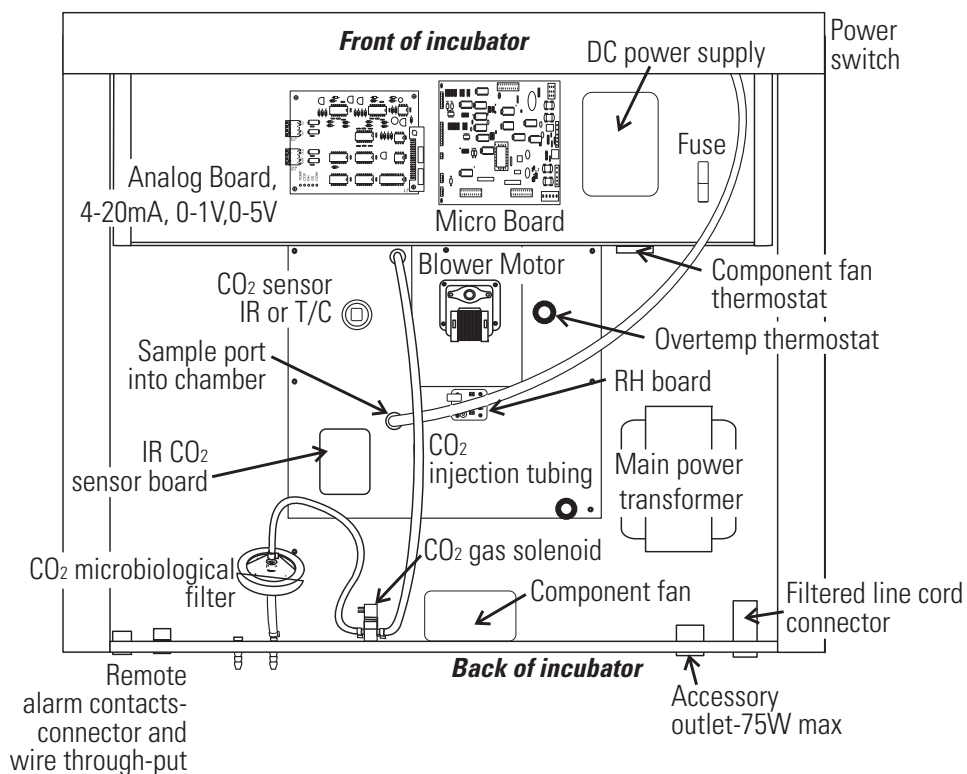

Figure 5-3. Electronics Drawer
3. Figure 5-3 shows the location of the fuse. See Table 5-1 following for replacement fuse specifications.
Refer to Figure 5-3. Some components shown are factory installed options.